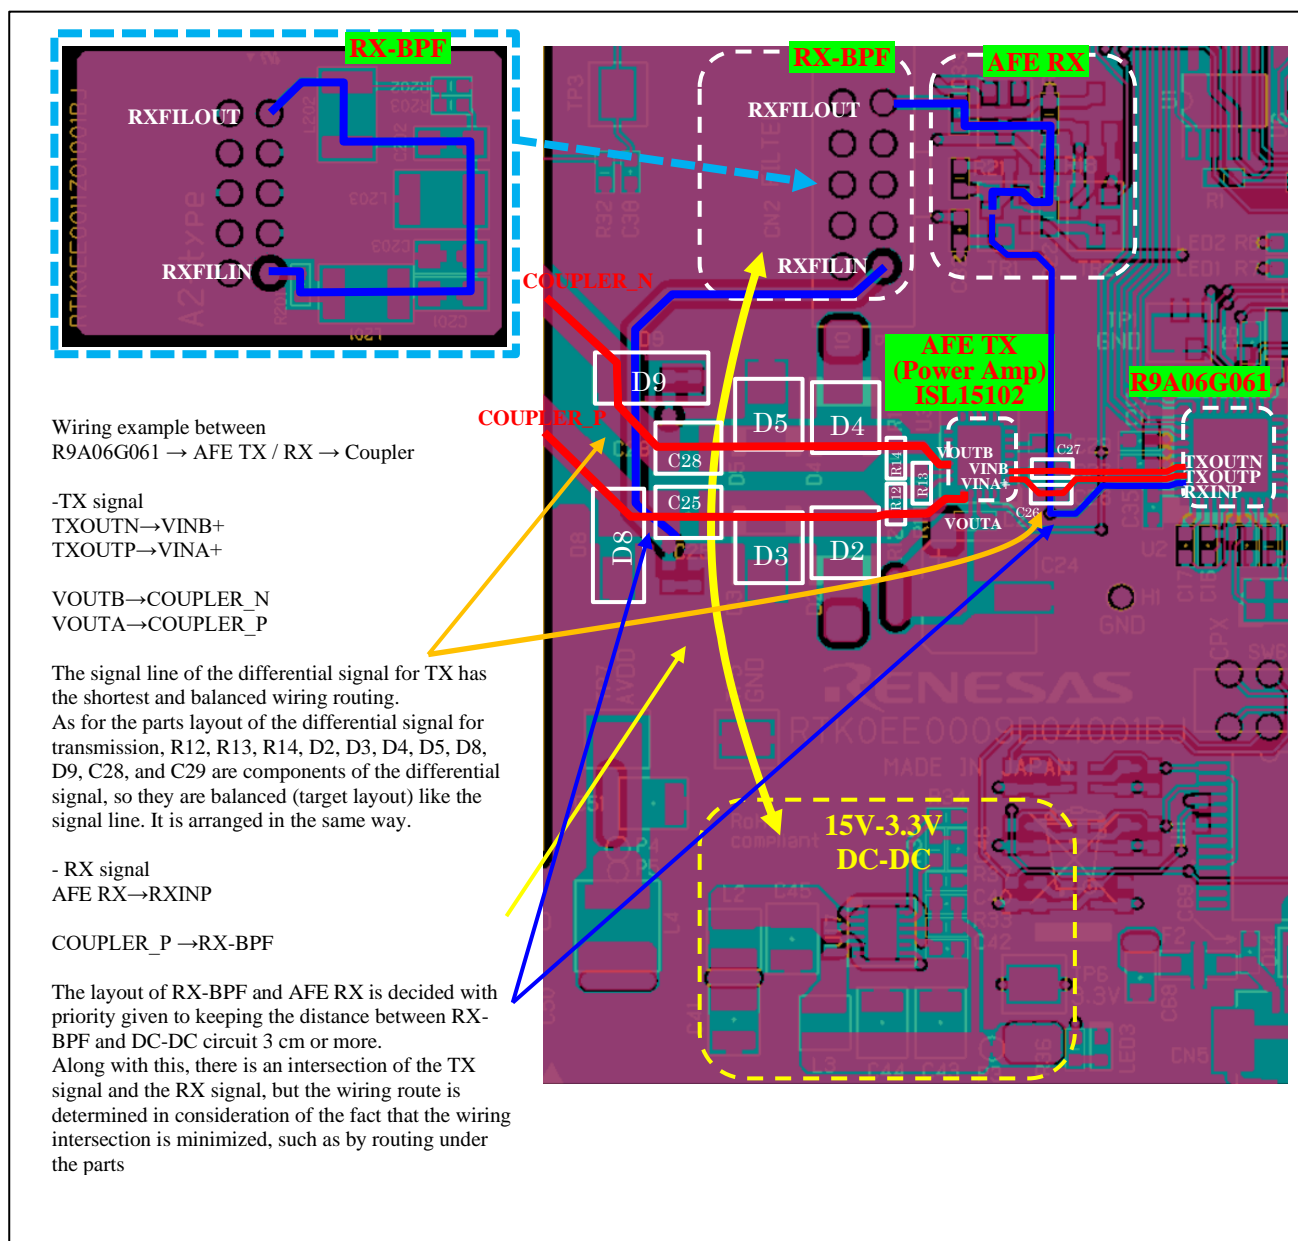

Figure 2-8 Example of routing the TX / RX signal line between R9A06G061 and ISL15102
- Since the TX signal line between R9A06G061 → AFE TX (ISL15102) → PLC Coupler is a differential signal, design the layout with the shortest wiring and the arrangement of parts in consideration of balance as much as possible. (An example is shown in Figure 2-8.)
- In the RX signal line between PLC Coupler → AFE RX → R9A06G061, design the layout with the shortest possible wiring. However, if there is a risk that the RX signal line will interfere with the power supply circuit, give priority to keeping it away from the power supply circuit. An example is shown in Figure 2-8.)